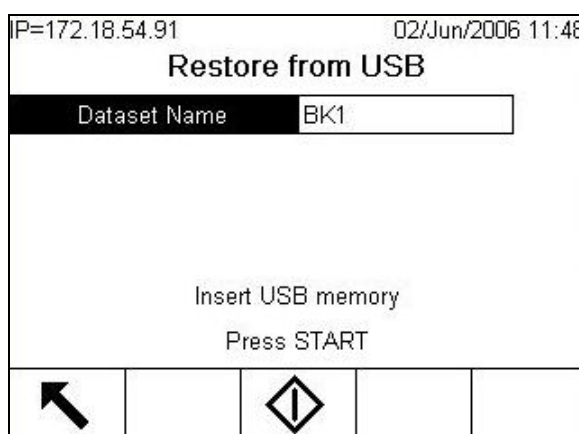

Figure 3-7: Restore from USB
2. Access Setup > Maintenance > Run > Restore from USB. A screen like the one shown in Figure 3-7 will appear.